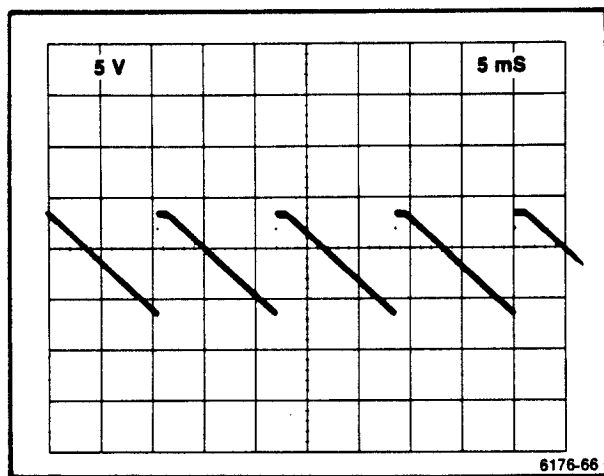

Figure 5-11. Sweep Out waveform to check Repetitive Scan rate.
- a. **CHECK**—the display for 25 ms or less per sawtooth (see Figure 5-11).